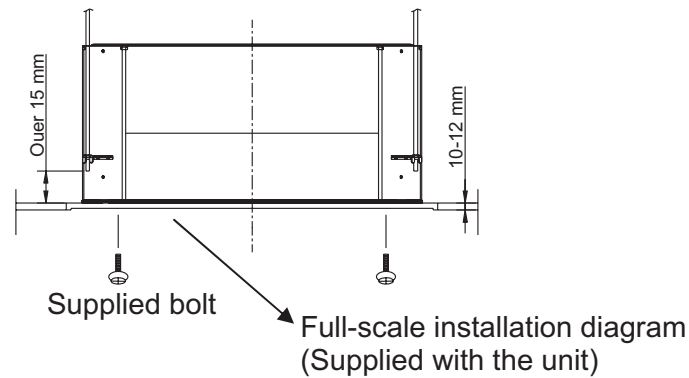

Fig.8
3. The length of suspension bolts must be appropriate for a distance between the bottom of the bolt and the bottom of the unit of more than 15mm as shown in Fig.8